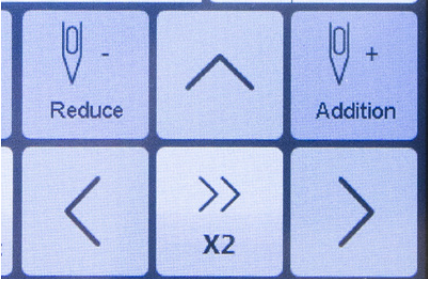

Figure 99
2. To rewind by stitch count, click on the “Reduce” icon. To fast-forward by stitch count, click on the “Addition” icon. **See Figure 99.**